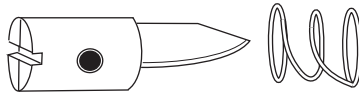

Figure 23
- b. Turn the tool upside down over a cupped hand or a container resting on a work surface and let the blade assembly and spring fall out of the tool (Figure 23).